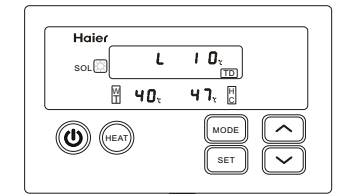

Fig.8 Temperature difference setting interface for water pump
- Indicating clock condition---to set heating temperature in fixing temperature---indicating clock condition. For example: temperature difference value setting of water pump running: to press the setting key to enter the setting condition of temperature difference of water pump running. The indication board indicates the present set value (the first place on the left of the clock number tube indicates L, and the following two places indicate the tacitly approved set value, which is 10 °C). To press “∧”、“∨” to select between 10 °C and 6 °C. For the indication interface, see Fig.8.